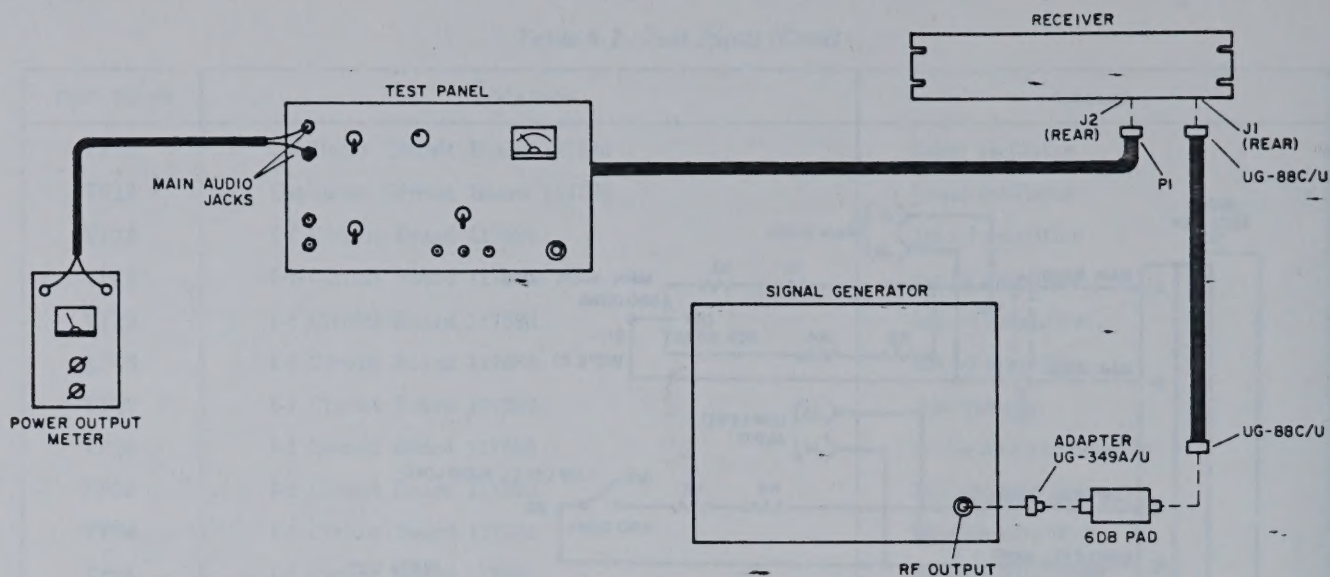
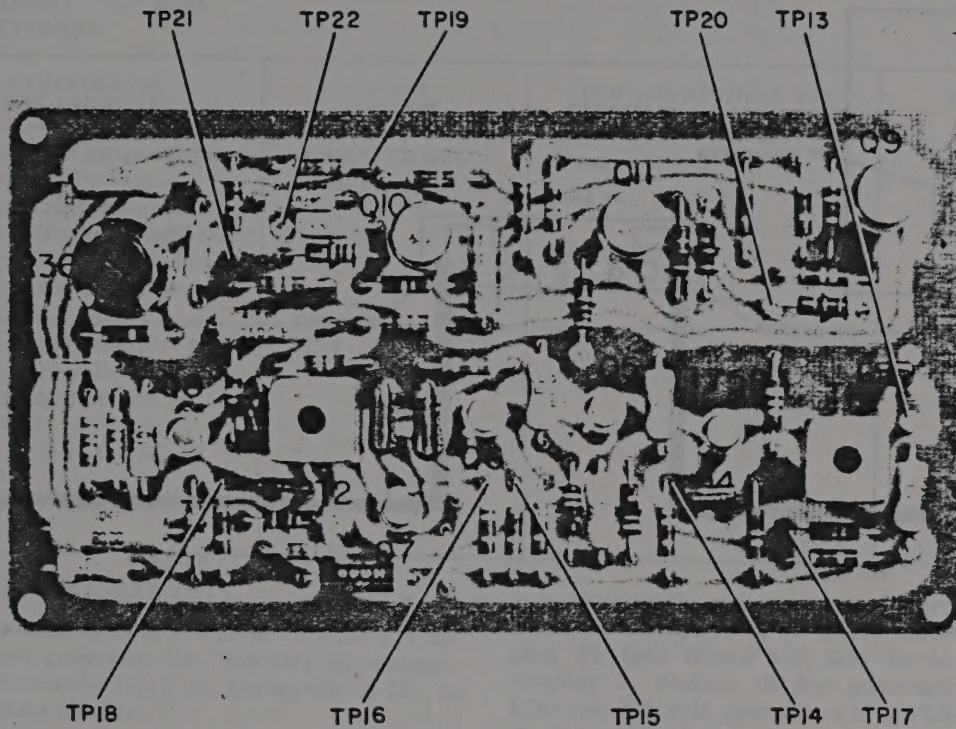

Figure 5-2. Standard Test Setup
Figure 5-4. I-f and Agc Circuit Board, Test Point Locations
c. Connect the test equipment to the receiver as shown in figure 5-2.
- (1) REMOTE RF GAIN control to the full clockwise position.
- (2) REMOTE SQUELCH switch to the OFF position.
- (3) LOW LEVEL AUDIO LOAD switch to the OFF position.
- (4) MAIN AUDIO LOAD switch to the OFF position.
| PRELIMINARY INSTRUCTIONS: | Set the signal generator for zero microvolts output.Connect the audio oscillator output through a 10-ufd capacitor to TP22, figure 5-4.Adjust the audio oscillator for an output of 1.5 volts peak-to-peak at 1000 cps.Set the receiver AUDIO GAIN control to position 3.Set the oscilloscope for MAIN SWEEP NORMAL and INT. SYNC.When you have completed the tests in this section, disconnect the test equipment from the receiver. |
| 1H                   | Perform step 1G.Connect the oscilloscope 10:1 attenuator probe to TP21, figure 5-4.                                                                                                                                                                                                       | TP21                           | Same as 1G                                           | 1.7 $\pm$ 0.2 volts peak-to-peak  |
| 1I                   | Perform step 1G.Connect the oscilloscope 10:1 attenuator probe to TP22, figure 5-4.                                                                                                                                                                                                       | TP22                           | Same as 1G                                           | 1.4 $\pm$ 0.2 volts peak-to-peak  |
| PRELIMINARY INSTRUCTIONS: Remove the coaxial cable that is connected between receiver receptacle J1 and the 6-db attenuator.Use the RG-58/U coaxial cable that is terminated with a UG-88C/U connector on one end and two alligator clips on the other end, and connect this cable to the 6-db attenuator.Connect the center conductor of the coaxial cable through a 1000-uuf capacitor to TP13, figure 5-4, and the outer conductor to chassis ground.At the conclusion of the tests in this section, reconnect the test equipment as shown in figure 5-2. |                                                                                                                                                                                     |                                    |                                                                                                                                                                                 |                                                                         |
| 3B                                                                                                                                                                                                                                                                                                                                                                                                                                                                                                                                                                              | Set the signal generator for a 50-microvolt output, modulated 30 percent at 1000 cps.Set the vtvm to the 30-volt dc scale.Connect the vtvm to TP19, figure 5-4.             | TP19                               | Set the RF GAIN control to the maximum clockwise position.Set the AUDIO GAIN control to position 4.Set the SQUELCH switch to the ON/MUTING position.                    | $13.5 \pm 1.4$ volts dc                                                 |
| 3C                                                                                                                                                                                                                                                                                                                                                                                                                                                                                                                                                                              | Set the signal generator for a 50-microvolt output, modulated 30 percent at 1000 cps.Set the vtvm to the 30-volt dc scale.Connect the vtvm to TP17, figure 5-4.             | TP17                               | None                                                                                                                                                                            | $15 \pm 1.5$ volts dc                                                   |
| 3A                            | Set the vtm to the 1-volt dc scale.Connect the vtm from TP13, figure 5-4, to chassis ground.  | TP13          | 0 volts         |
| 3B                            | Set the vtm to the 30-volt dc scale.Connect the vtm from TP14, figure 5-4, to chassis ground. | TP14          | 15.0 volts      |
| 3C                            | Set the vtm to the 30-volt dc scale.Connect the vtm from TP15, figure 5-4, to chassis ground. | TP15          | 15.6 volts      |
| 3D                            | Set the vtm to the 10-volt dc scale.Connect the vtm from TP16, figure 5-4, to chassis ground. | TP16          | 8.7 volts       |
| 3E                            | Set the vtm to the 30-volt dc scale.Connect the vtm from TP17, figure 5-4, to chassis ground. | TP17          | 15.5 volts      |
| 3F                            | Set the vtm to the 30-volt dc scale.Connect the vtm from TP18, figure 5-4, to chassis ground. | TP18          | 20 volts        |
| 3G                            | Set the vtm to the 30-volt dc scale.Connect the vtm from TP19, figure 5-4, to chassis ground. | TP19          | 20 volts        |
| 3H                            | Set the vtm to the 3-volt dc scale.Connect the vtm from TP20, figure 5-4, to chassis ground.  | TP20          | 0.99 volt       |
| 3I                            | Set the vtm to the 30-volt dc scale.Connect the vtm from TP21, figure 5-4, to chassis ground. | TP21          | 9.4 volts       |
| 3J                            | Set the vtm to the 3-volt dc scale.Connect the vtm from TP22, figure 5-4, to chassis ground.  | TP22          | 0 volts         |